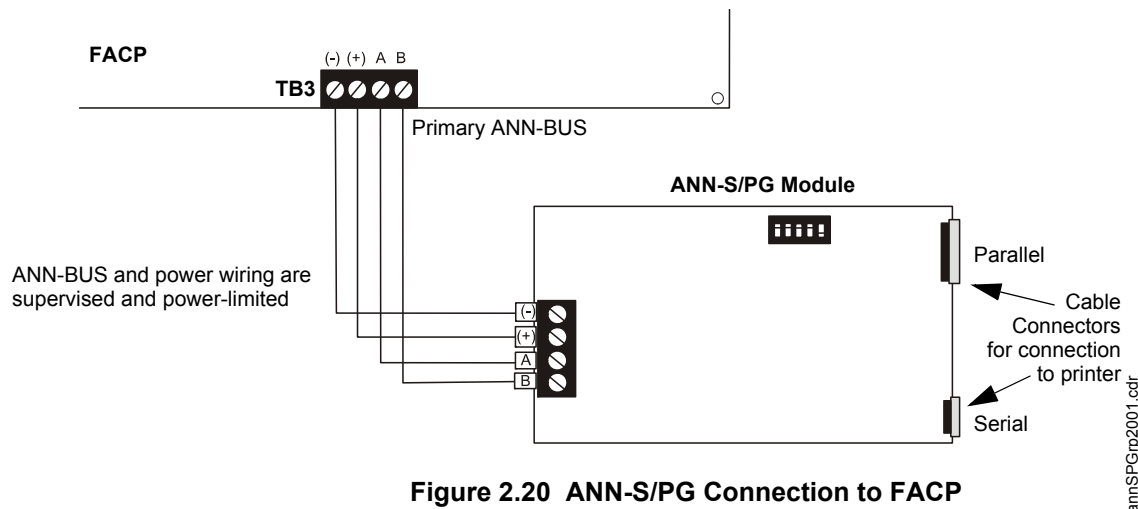

Figure 2.20 ANN-S/PG Connection to FACP
2. Connect the ANN-S/PG to the FACP as illustrated in Figure 2.20.
5. Connect a printer to the ANN-S/PG Parallel or Serial connector (refer to Figure 2.20 on page 41).